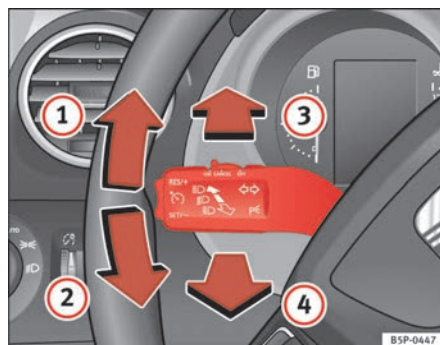

Fig. 77 Indicator and main beam headlight lever
- Move the lever all the way up \Rightarrow page 118, fig. 77 ① to indicate **right**, and all the way down ② to indicate **left**.
- Press the lever forward \Rightarrow page 118, fig. 77 ③ to switch on the main beams.